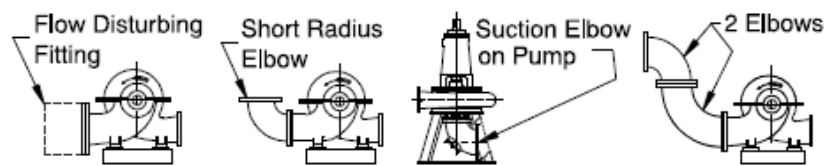

Figure 10 Suction pipe fittings that require manufacturer's approval
- If a fitting is necessary as fig 10 The approval of pump manufacturer is required